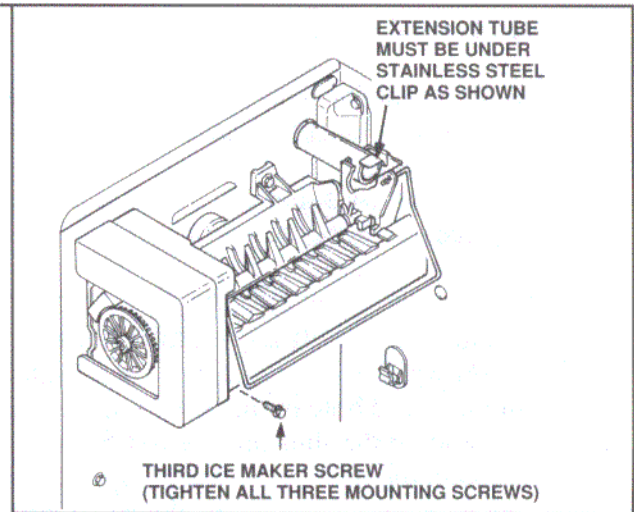

Figure 9
- h. Install the third ice maker mounting screw (silver colored), and tighten all three. This completes installation of the ice maker. See Figure 9.